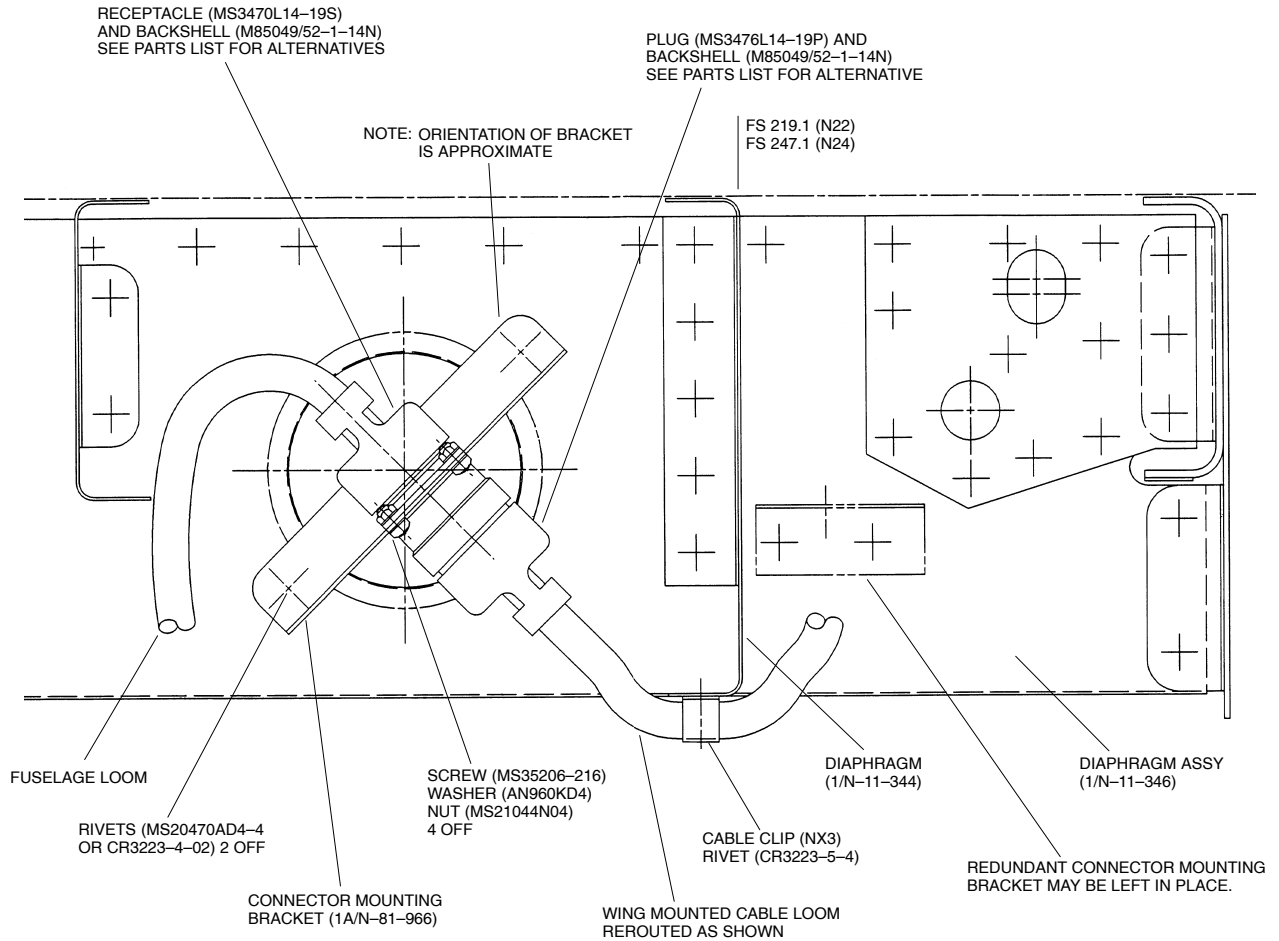

Figure 4 Revised Cable Connector Mounting
- (7) Attach new Connector Mounting Bracket (1A/N-81-966) as per Figure 4 with rivets (MS20470AD4-4).
- (8) Attach Receptacle to mounting bracket with screws (MS35206-216), washers (AN960KD4) and nuts (MS21044N04). Attach wing cable plug to fuselage Receptacle and secure.
- (9) Fasten wing cable to flange of diaphragm (1/N-11-344) using cable clip (NX3) and rivet (CR3223-5-04).
- (10) Check both wing and fuselage cables are free of obstruction or fouling.
- (11) Check the electrical circuit for continuity (Ref Wiring Diagram Manual Chap 27-50-00).